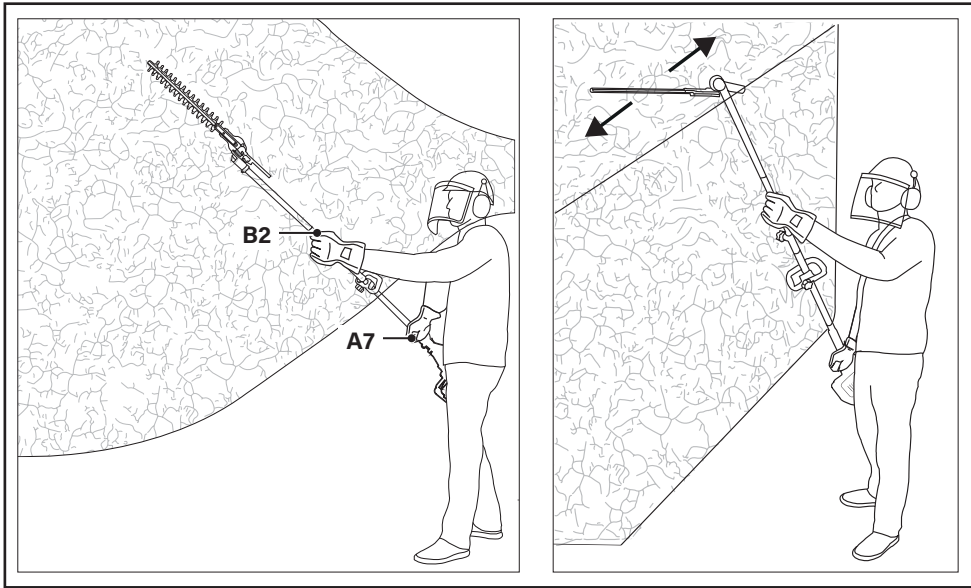

Fig. 20
- Cut both sides from the bottom cutting upwards to the top. This will prevent any of the cuttings falling into the path of the area still to be cut (Fig. 20).
- When cutting wide hedges with the cutting area in sight move the cutter blade lightly through the cutting surface in a sweeping motion following the shape of the hedge or shrub. A slight tilt downwards of the cutter blade in the direction of motion is recommended for optimum cutting performance (Fig. 20).